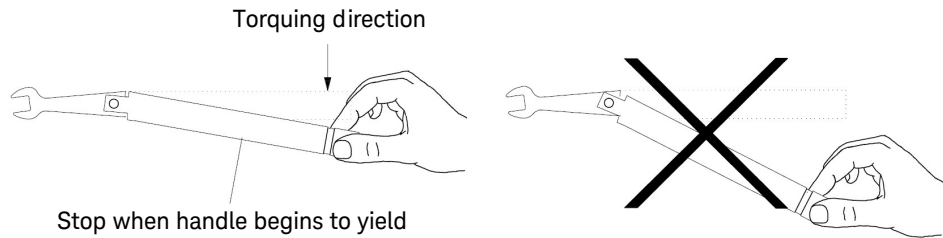

Figure 2-2 Using the torque wrench
- 4 Hold the torque wrench lightly, at the end of the handle only (beyond the groove). Refer to **Figure 2-2** below.
- 5 Apply downward force perpendicular to the wrench handle. Refer to **Figure 2-2**. This applies torque to the connection through the wrench.
- 6 Tighten the connection just to the torque wrench break point. The wrench handle gives way at its internal pivot point. Refer to **Figure 2-2**. Do not tighten the connection further.